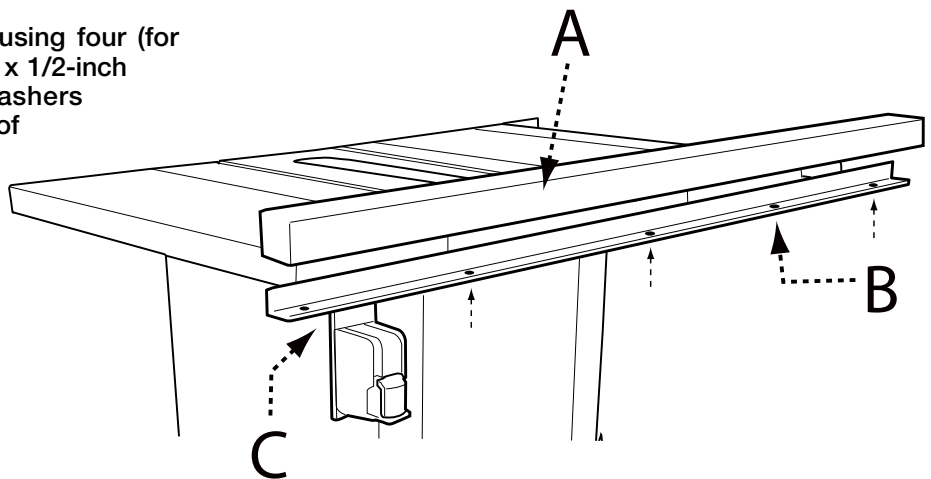

FIGURE 10
1. Connect the fence guide tube (A) by inserting the smaller end into the larger end. See Figure 10
2. Attach the fence guide to the front rail using four (for 30" versions) six (for 52" versions) 1/4-20 x 1/2-inch button head screws and with spring washers through the holes (B) on the bottom side of the front rail.
3. Align the two holes in the power control box bracket with the holes underneath the front rail (C), located on the left side of the saw. Secure the power control box to the front rail using two 1/4-20 x 1/2-inch button head screws with spring washers.